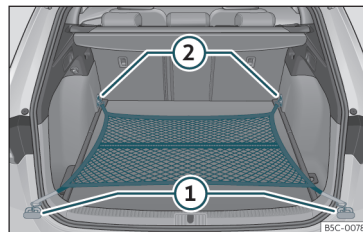

Fig. 116 In the luggage compartment: net bag hooked up at floor level.
- Secure the net hooks to the fastening rings ① and ②»» Fig. 116 »» ⚠. The bag zip should be facing upwards.